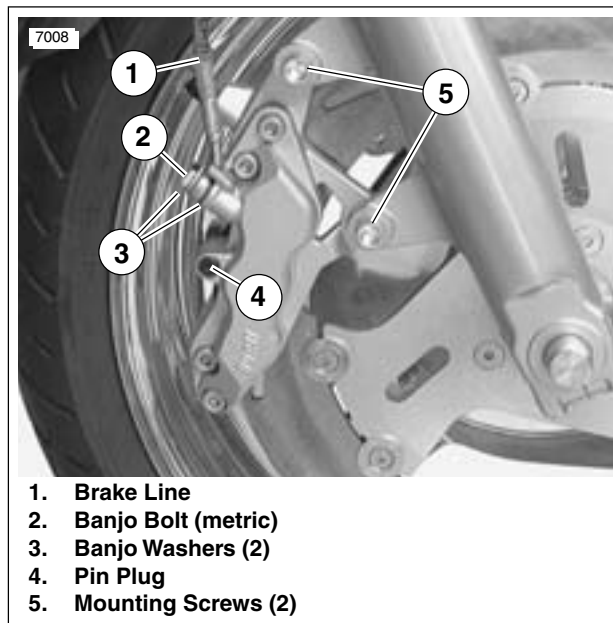
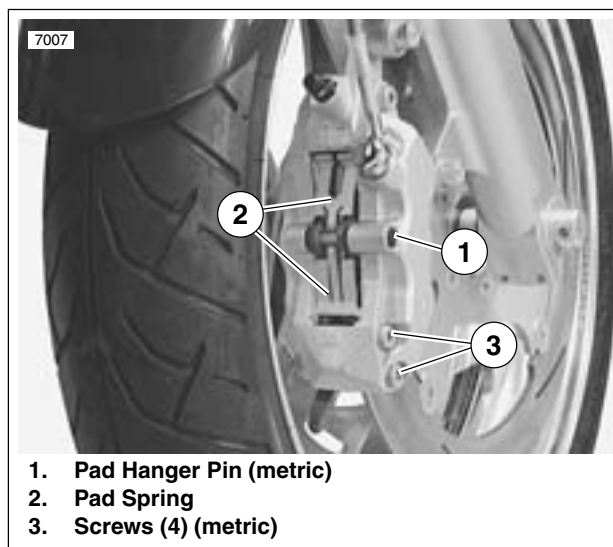

Figure 2-28. Front Brake Caliper Mounts (Typical)
Figure 2-29. Pad Spring (Typical)
2. See Figure 2-28. Remove banjo bolt (2) (metric) and two banjo washers (3) to disconnect brake line (1) from caliper. Discard banjo washers.
- a. Remove pin plug (4).
- b. See Figure 2-29. Remove pad hanger pin (1) (metric).
- c. Remove pad spring (2).
4. See Figure 2-28. Detach caliper from mounts.
- a. Remove both mounting screws (5) while supporting caliper above brake rotor.
1. See Figure 2-29. Remove four screws (3) (metric) to separate caliper halves.
2. See Figure 2-28. Apply **LOCTITE THREADLOCKER 271** (red) to both caliper mounting screws (5). Install and tighten to 22-25 ft-lbs (30-34 Nm).
- b. See Figure 2-29. Install pad spring (2) with opening at top as shown.
- c. Install pad hanger pin (1) (metric). Tighten to 11-14.5 ft-lbs (15-20 Nm).
- d. See Figure 2-28. Install pin plug (4). Tighten to 18-25 in-lbs (2-3 Nm).